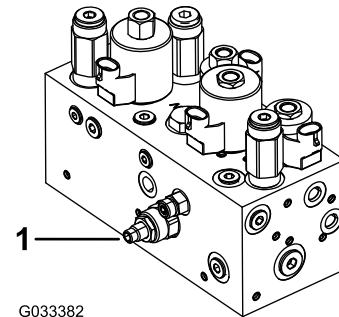

Figure 47
The cutting unit lift/drop circuit comes with a flow-control valve (Figure 47). This valve is preset at the factory at approximately 3 turns open, but you may need to adjust it to compensate for differences in hydraulic fluid temperatures, mowing speeds, etc.
1. Raise the seat and locate the flow-control valve for the center-pull frame (Figure 47), which is located on the side of the hydraulic manifold.